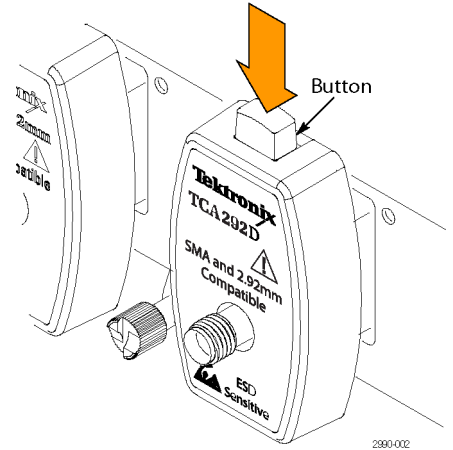

Figure 2: Removing the adapter from the host instrument
4. Press the button on top of the adapter to release the lock and remove the adapter from the host instrument. (See Figure 2.)